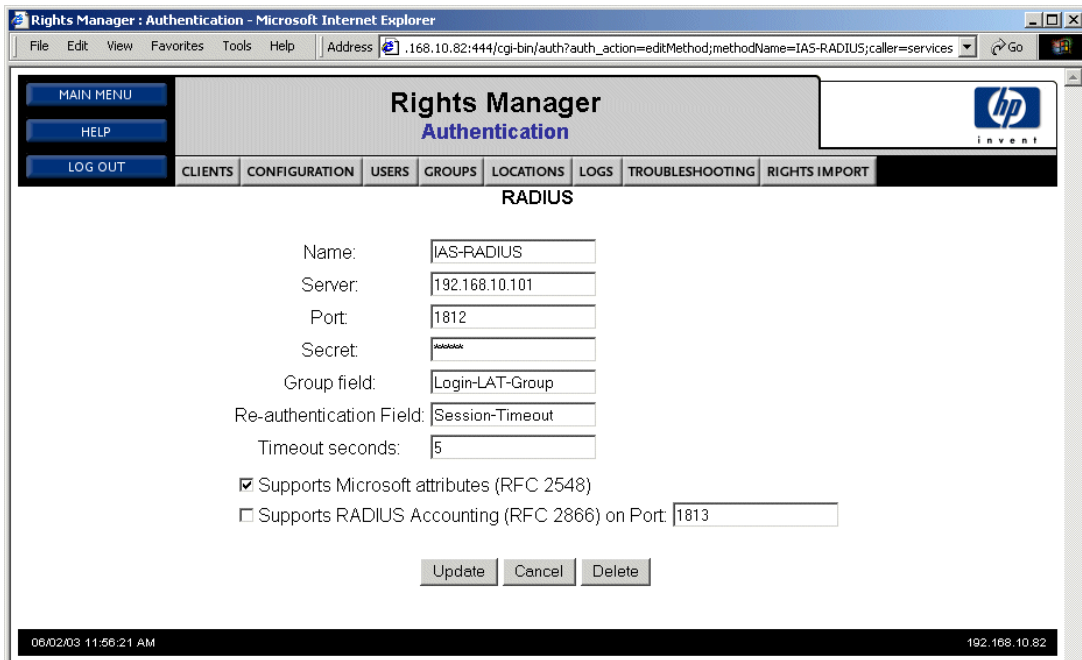

Figure 2-20. Authentication page
- Step 7.** Type the required information into the appropriate fields according to the example shown in Figure 2-20.